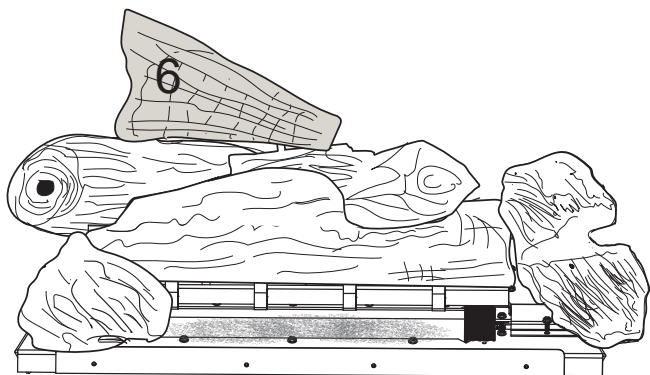

Figure 16 - Log #6 Placement
7. Hold log #6 with the flat end toward the bottom. Place log #6 by positioning the two pin locator holes on the bottom of the log over the two pins on log #4 and log #5. See Figure 16.